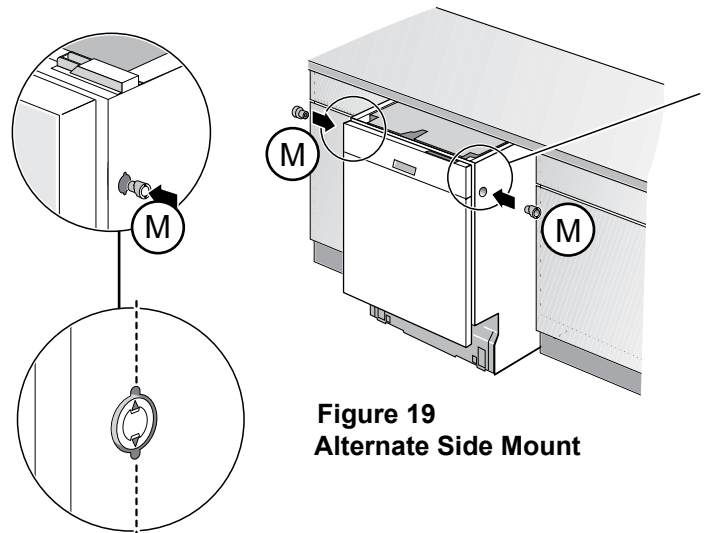

Figure 19
Alternate Side Mount for opening $23\frac{5}{8}$ " (600mm). Insert a side mount force distributor (M) in each side as shown in **Figure 19**.